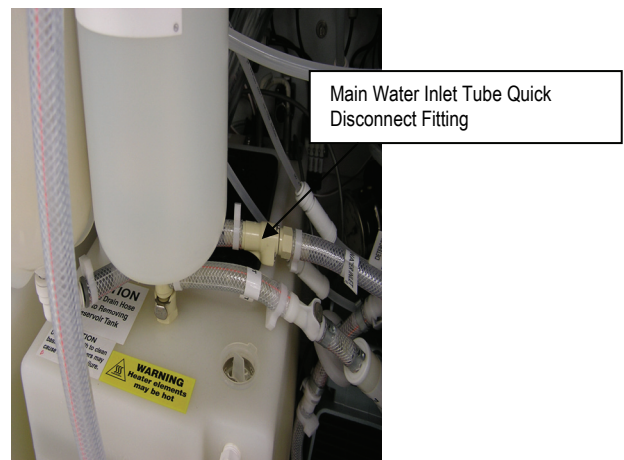

Fig 3
3. Disconnect the main water inlet tube quick disconnect from the incoming water supply line. Refer to Figure 3.
13. Reconnect the main water inlet tube. Refer to Figure 3.